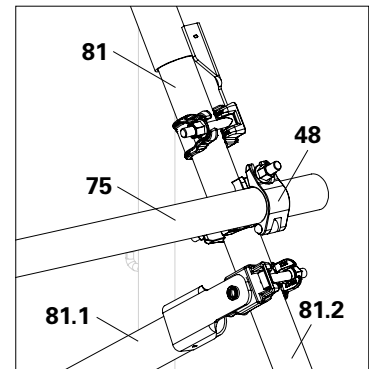

Fig. C4.07a
2. For 3 m long bays, horizontally reinforce each multi brace with an outer tube. For bay lengths ≤ 2.5 m, horizontally reinforce each multi brace with a scaffold tube (**75**) and standard couplers (**48**). (Fig. C4.07a)